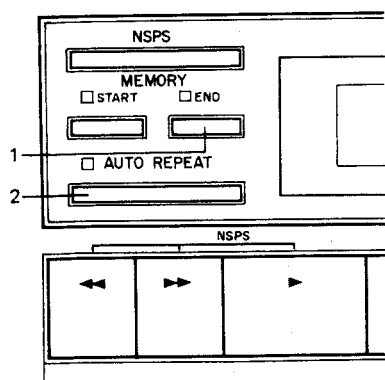

Fig. 10 Encoding a Memory End Signal
As shown in Fig. 10, Dolby B type NR improves the signal-to-noise ratio by 10 dB at 5 kHz, and the new C-type improves it by 20 dB at 5 kHz, in comparison to when the Dolby system is off. Dolby C-type also operates at lower frequencies than B-type to offer a noise reduction effect in the midrange of the lower frequencies.
B. Memory End (Fig. 10)